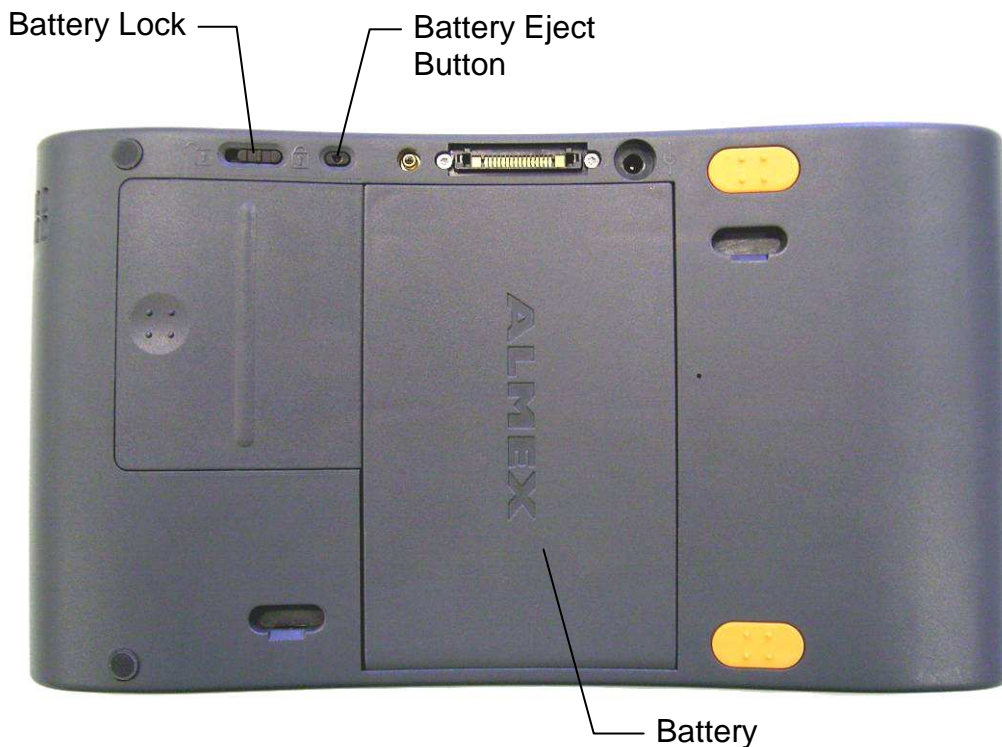

Fig. 29: Rear view of the skeye.pos mobile
3. Use the stylus to press the "Battery Eject Button" (see Fig. 29).